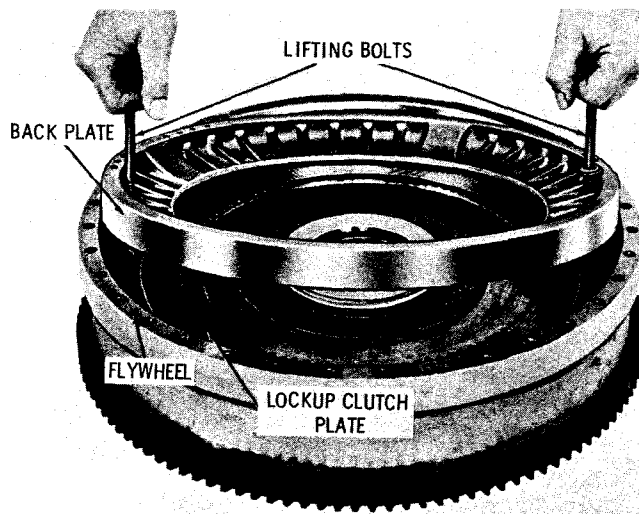

Fig. 5-19. Removing lockup clutch back plate (CLT, CLBT, VCLT, VCLBT)
(11) Install two lifting bolts (fig. 5-19) into lockup clutch back plate and remove the plate from the flywheel. Remove the lockup clutch plate.
(12) Remove the lockup clutch piston return spring and lockup clutch piston, using the two